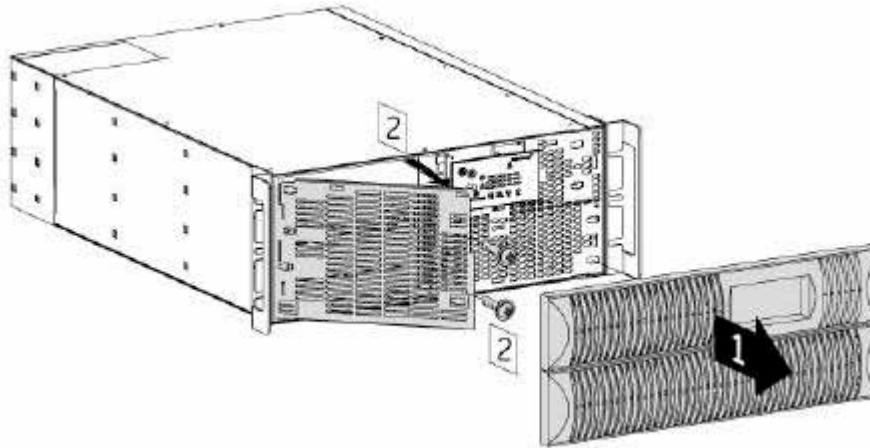

FIG 69 – FRONT COVER REMOVAL
2. Remove the battery grille by loosening the two mounting screws (FIG 69).